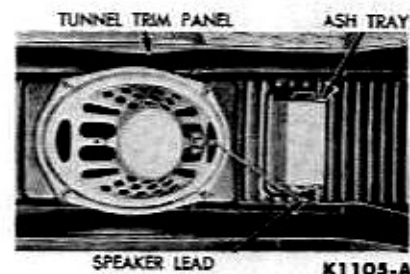

FIG. 6—Speaker Mounting
2. Remove the four speaker mounting wing nuts, disconnect the speaker cable from the audio chassis and remove the speaker (Fig. 6).